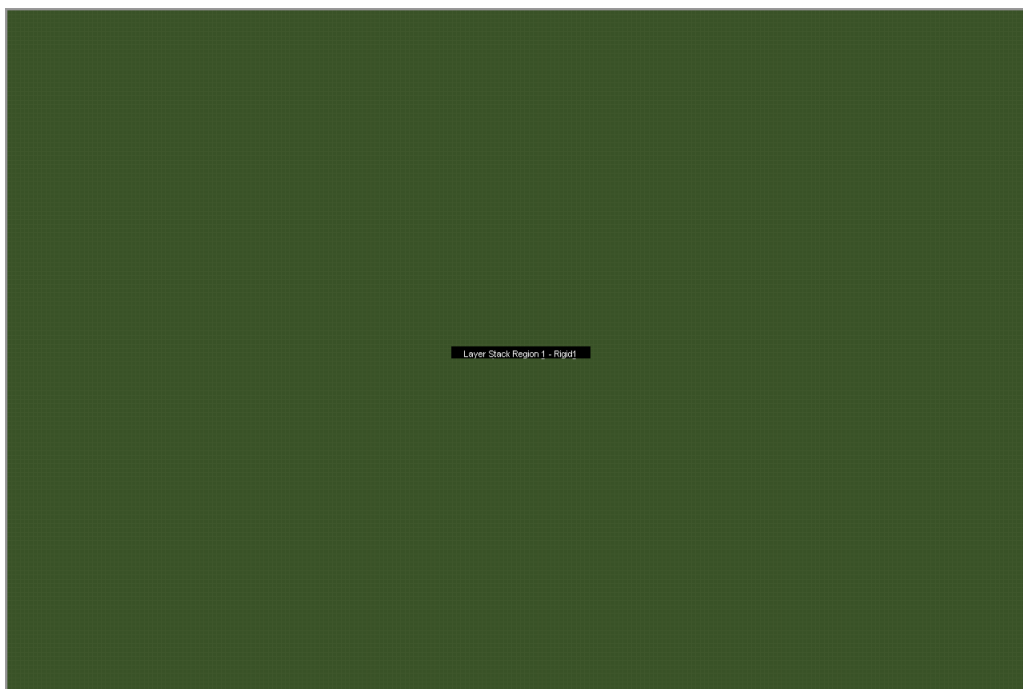

Figure 1. Default Board Planning Mode View
5. Select menu **View » Board Planning Mode** (Key **1**) to begin the process of defining individual board regions. The current Board Region / Board Outline will be highlighted in green as shown in Figure 1 below.